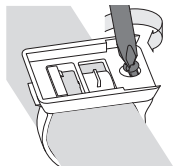

Figure 3. Tighten screw.
- ✦ Insert the screw and washer (G) and tighten with the screwdriver until the computer base no longer rotates on the handlebar (Figure 3). Do not overtighten.